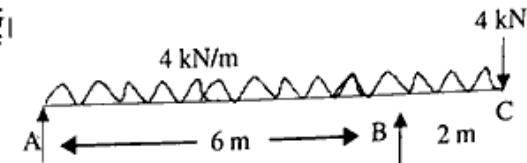

Figure 1
- b) An overhanging beam is shown in figure 1. Draw the S.F and B.M